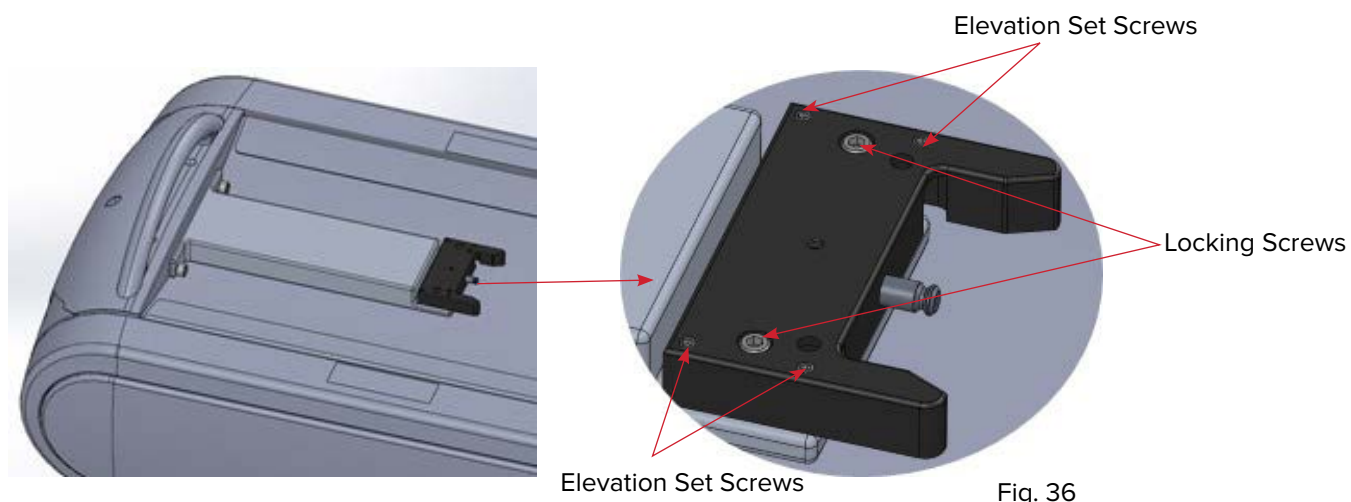

Fig. 36
2. Install Mounting Latch Block using (2) ¼-20 screws and (4) set screws (Fig 36).